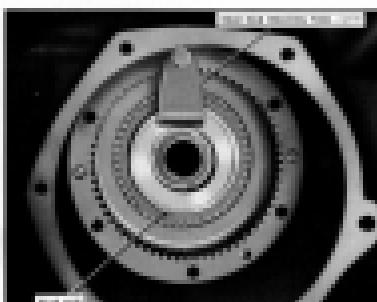

Fig. 394. Holding Rear Hub with Tool J-2174.
1. Insert rear hub holding tool J-2174 to rear drum held in place with one rear drive flange retaining screw. (Fig. 394)